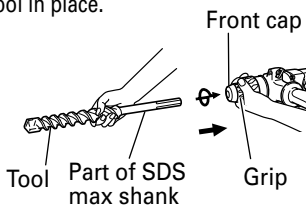

Fig. 2
- (1) Clean, then smear the tool shank with the grease or oil.
- (2) To attach the tool (SDS max shank), insert it into the hole until it contacts the innermost end of the hole as illustrated in Fig. 2.